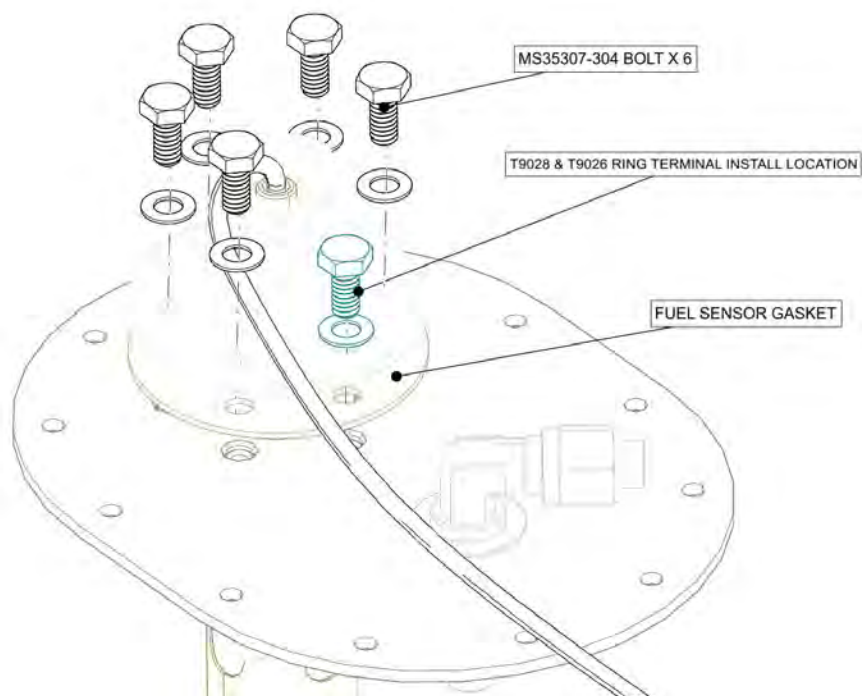
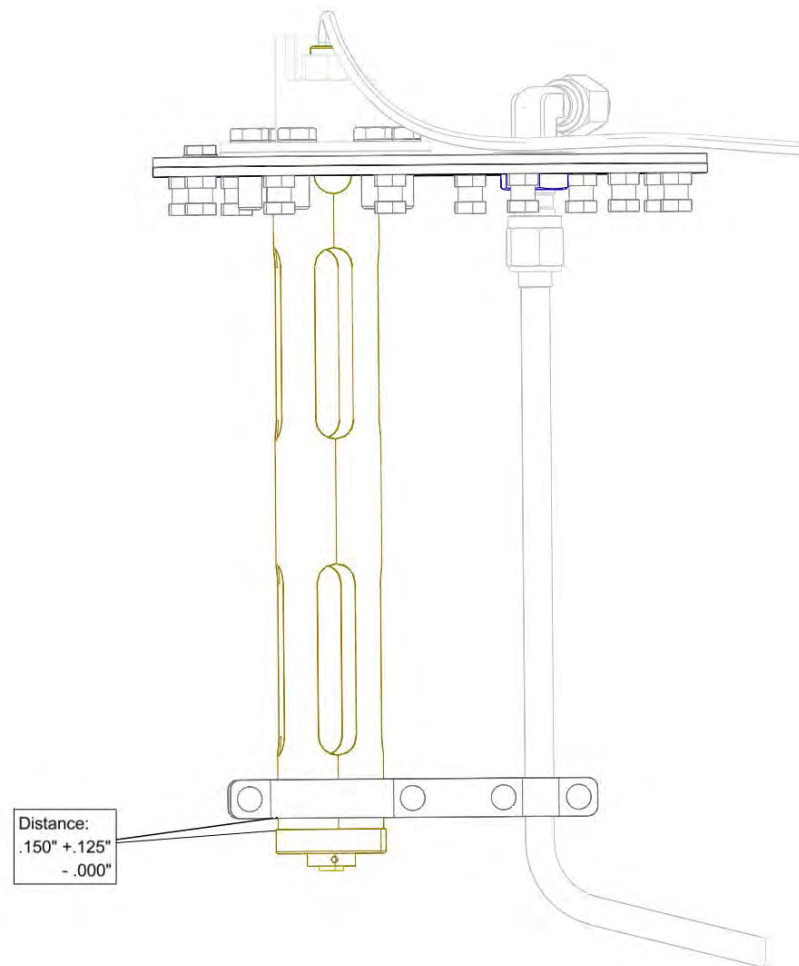

FIGURE 14-93
FIGURE 14-94
- b. Remove the 5 remaining bolts and washers on the Fuel Level Sensor. See Figure 14-93.
- b. Orient Fuel Level Sensor Probe as shown in Figure 14-94 and install into the Fuel Access Plate using a new FUEL SENSOR GASKET, THREADLOCKER, 5X bolts, and 5x washers previously removed. See Figure 14-93. Torque bolts in a star shaped pattern to 40-45 in-lbs.
- c. Position Clamp Bracket on the Fuel Level Sensor as shown in Figure 14-94.